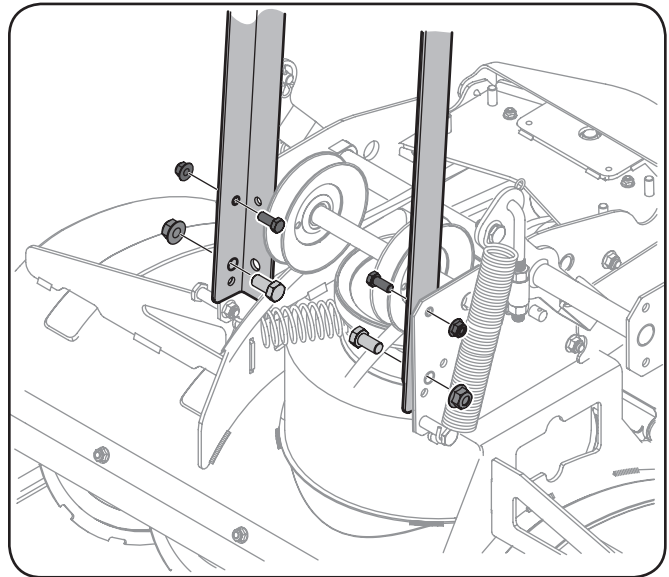
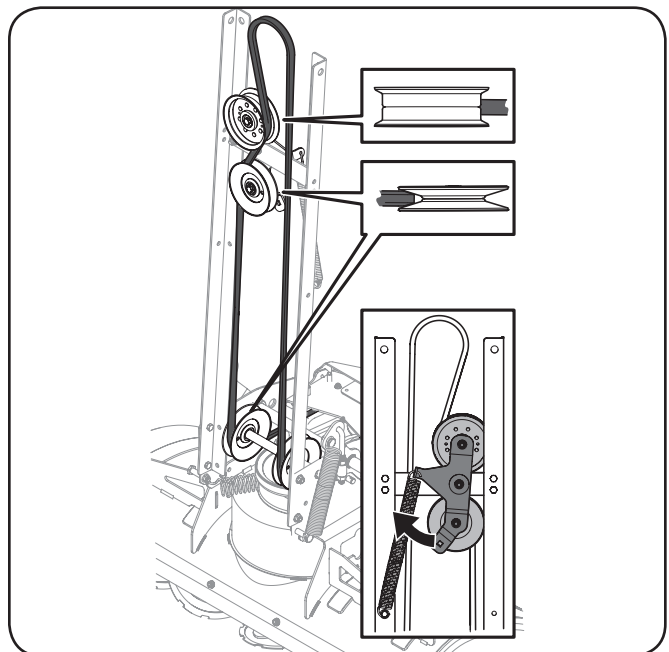

Figure 3-12
Figure 3-13
1. Carefully pivot the auger housing up and forward until the top front face of the housing is resting on the ground. Refer to Figure 3-13 and Figure 3-12
2. Using two $\frac{9}{16}$ " wrenches for the smaller rear bolts and flange lock nuts and two $\frac{3}{4}$ " wrenches for the larger front bolts and flange lock nuts, secure the rail assembly to the auger housing assembly. See Figure 3-12.
3. Route the auger assembly's belt around the rail assembly's idler pulleys. See Figure 3-13.